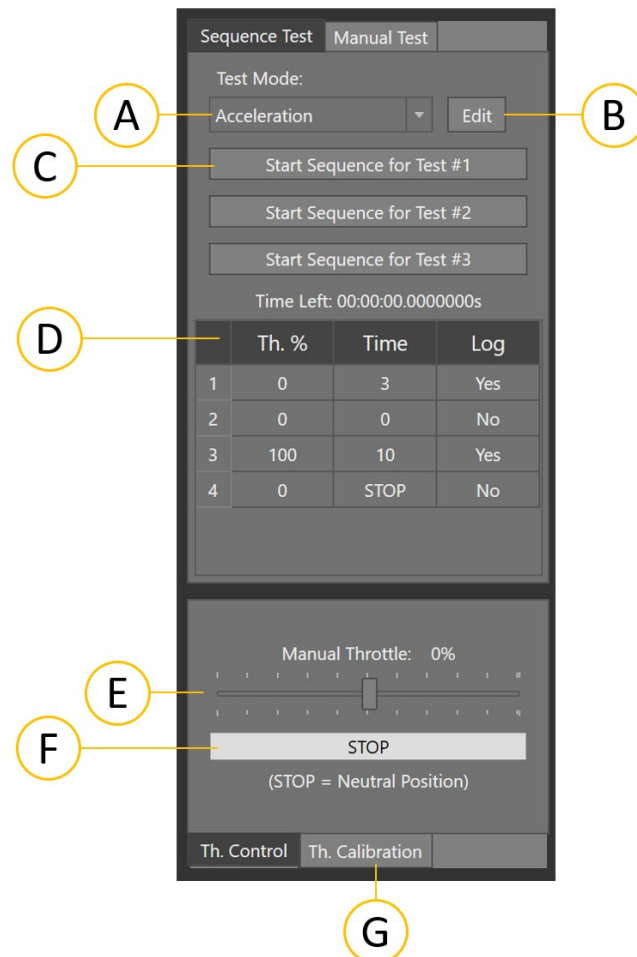
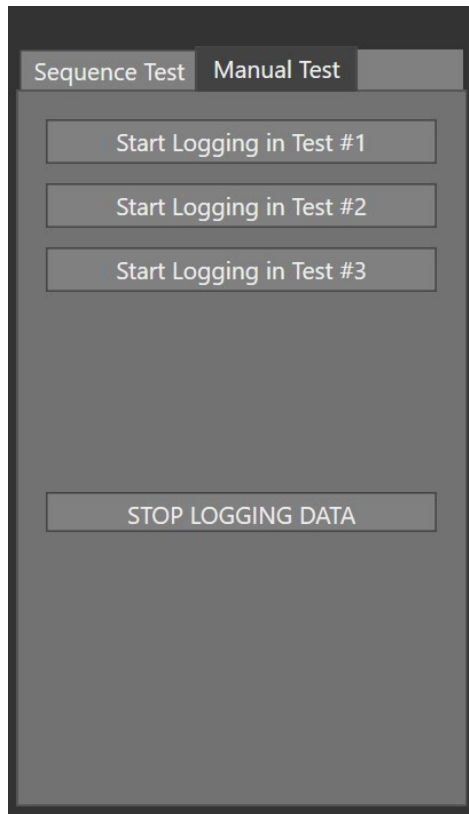

Figure 2.8 Sequence Test Window
Figure 2.10 Manual Test Window
MINIPRO® Dyno Analyzer have two test modes: (1) Sequence Testing (See Figure 2.8); and (2) Manual Testing (See Figure 2.10). Sequence testing allows you to control the motor using the MINIPRO® Dyno Analyzer. In contrast, Manual Test Mode requires the user to control the motor.